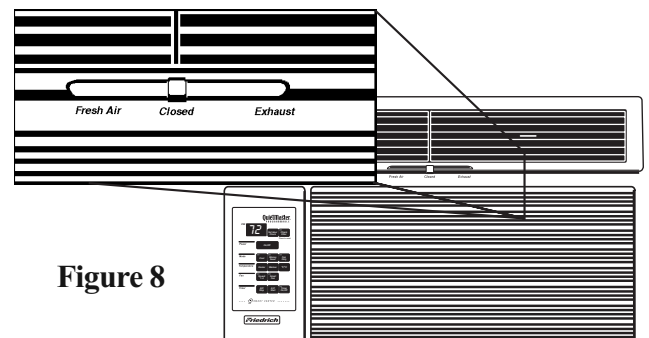

Figure 8
- 3 FAN ONLY - Press the FAN ONLY button if you want to run the fan only. You may want to use this feature in conjunction with the FRESH AIR/ EXHAUST if you want to bring outside air into the room, or exhaust stale air. (The FRESH AIR/ EXHAUST feature is located on the front of the air conditioner near the top. See page 7, Figure 8.)
Your air conditioner has the ability to bring fresh air into the room and exhaust stale air out of the room. The control lever is found on the upper part of the unit (See Figure 8).